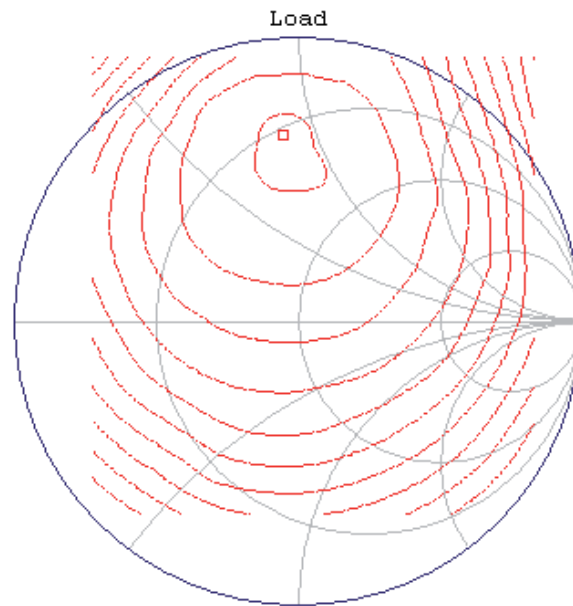

Figure 35. Load pull contour plot for R1=56ohm
- S and noise parameters are measured on PCB. The PCB material is 10 mils Roger RO4350. Figure 35 shows the input and output reference plane.
1. S-parameters are measured on PCB. The PCB material is 10 mils Roger RO4350. Figure 35 shows the input and output reference plane.